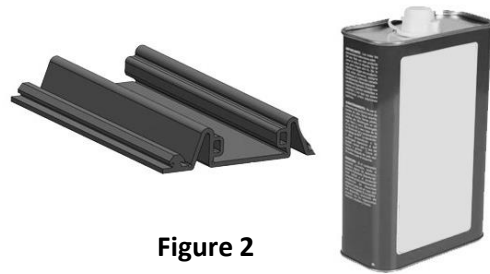

Figure 2
2. After donning the proper PPE, use a solvent (by others) that is safe for elastomeric materials and clean any residual material from the cut ends of the seals. Allow to dry prior to Step #3. **See Figure 2**